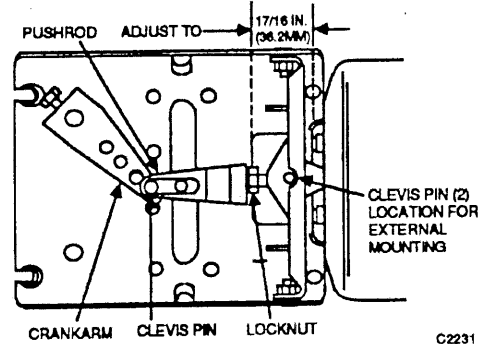

Fig. 31. Clevis Pin Locations.
7. Loosen locknut and adjust pushrod to dimensions shown on Figure 31. Tighten locknut.
8. Reinstall actuator noting change in clevis pin location (Fig. 31).
9. Install one of the crankarms on the pushrod with a clevis pin (Fig. 31).
4. Remove clevis pins and actuator (Fig. 31).